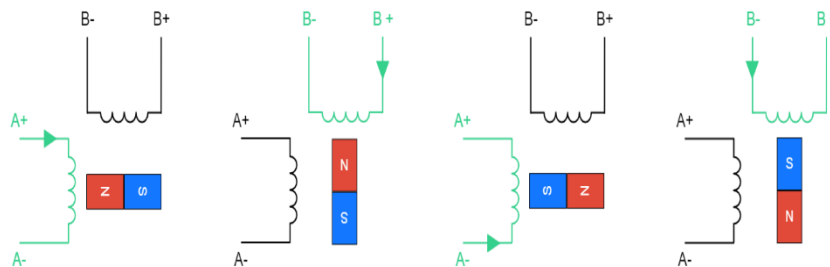

Figure 5: Wave Mode Steps
1. **wave mode**, only one phase at a time is energized (see **Figure 5**).